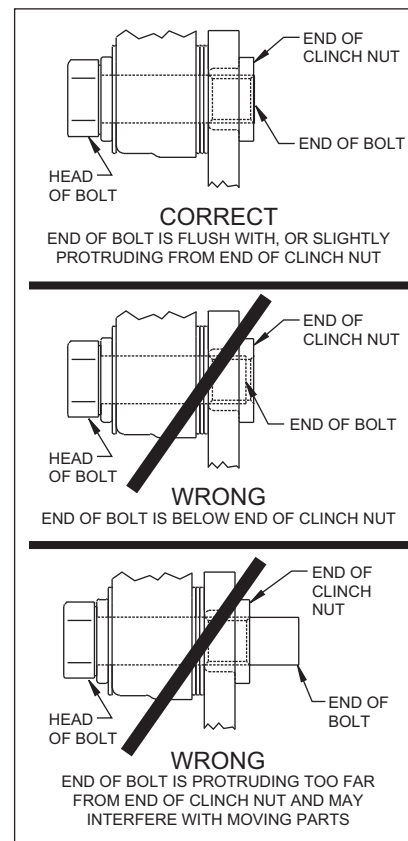

Figure 3.
- Install the dust cap (16) onto the hub (7). Friction created by the o-ring (17) on the dust cap (16) keeps it from unscrewing. The O.D. of the existing spindle washer may be larger than the I.D. of the dust cap (16) which may allow the washer to contact the dust cap (16). Use the spindle washer (15) supplied with the kit instead of the stock washer.
- NOTE:** Please reference the caution statement at the beginning of the assembly instructions. This kit contains distinct right and left hand calipers that must be mounted in a specific direction, as described below. Mount the caliper (18) onto the caliper bracket (1) using two bolts (20), two washers (19) and four flat washers (21). Finger tighten. Ensure that the caliper is mounted so that the largest pistons are at the rotor exit end of the caliper, in relation to the direction of rotor rotation. View the rotor (11) through the top of the caliper (18). The rotor (11) should be aligned in the center of the caliper (18). If not, loosen the two bolts (20) and adjust the caliper (18) by using 0.032 inch thick shim washers (22). The shim washers (22) should be placed between the caliper (18) and the flat washers (21). Finger tighten and recheck alignment. Add as many shim washers (22) as necessary to achieve the correct alignment. **NOTE:** The end of the bolt must be flush with or slightly protruding from the head of the clinch nut. See Figure 3. Place spare shims (22) between washer and caliper mounting ear to achieve the proper mounting fastener configuration. Always use the same amount of shims on both the top and bottom caliper mounting bolts (20). Loosen the two bolts (20) and apply red Loctite® 271 to bolt threads (20) and torque to 40 ft-lb.
- Install the disc brake pads (23) and secure using the pad clip retainer (24).